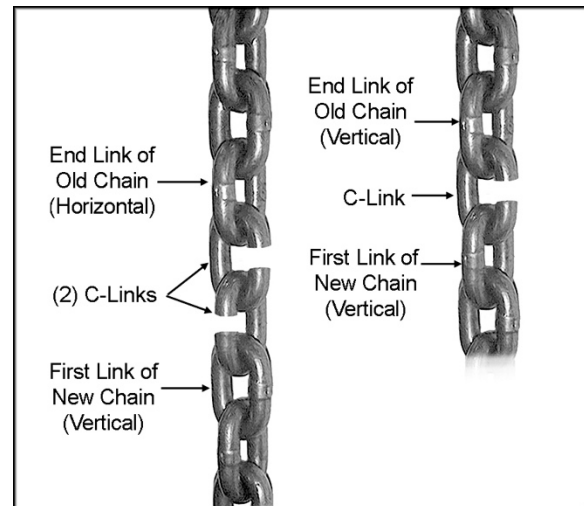

Figure 19
4. Using a C-link(s), connect the new chain to the old chain. If the end link of the old chain is horizontal, use two C-links. If the end link of the old chain is vertical, use one C-link. See Figure 19. Using the correct number of C-links will properly orient the chain and ensure that the first link on the load side end is a vertical link.